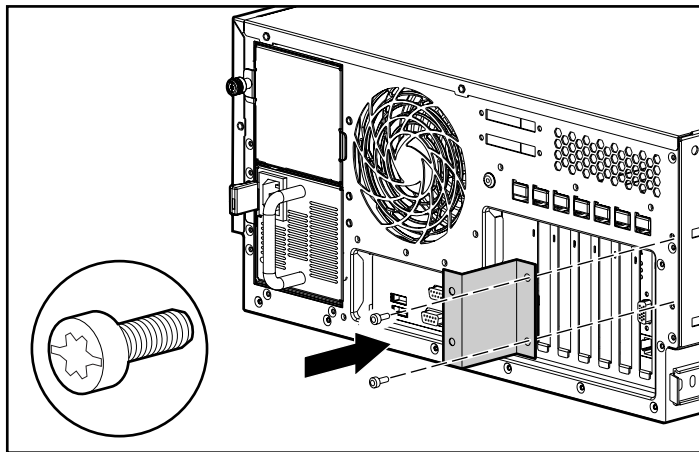

Figure 1-12. Securing the cable management arm bracket to the server
2. Using a Torx T-15 screwdriver and the two bracket screws, secure the cable management arm bracket to the back of the server, as illustrated in Figure 1-12.